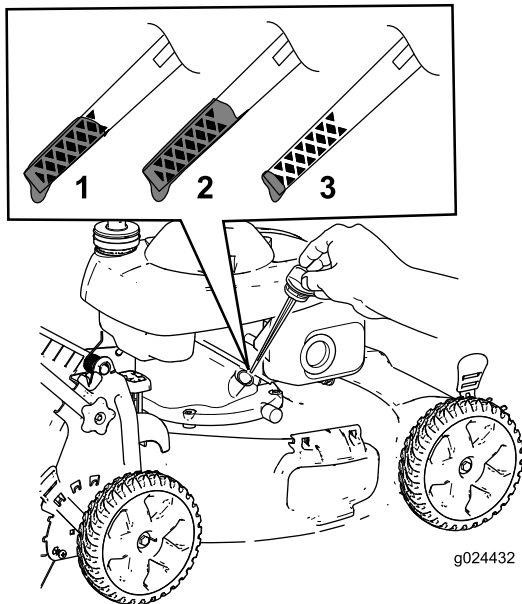

Figure 8
2. Remove the dipstick by rotating the cap counterclockwise and pulling it out (Figure 8).
5. Read the oil level on the dipstick (Figure 8).